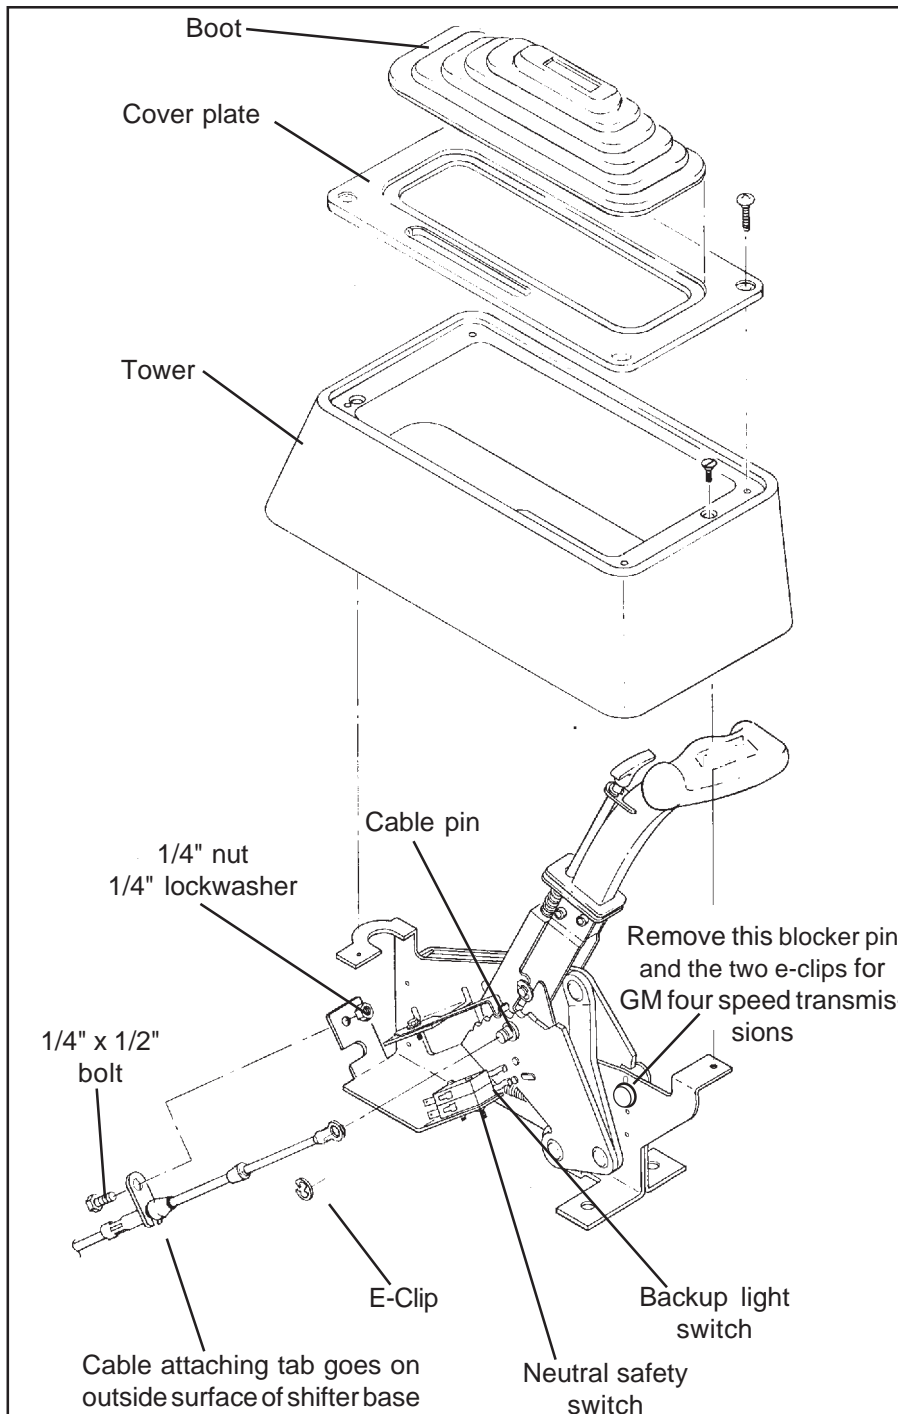
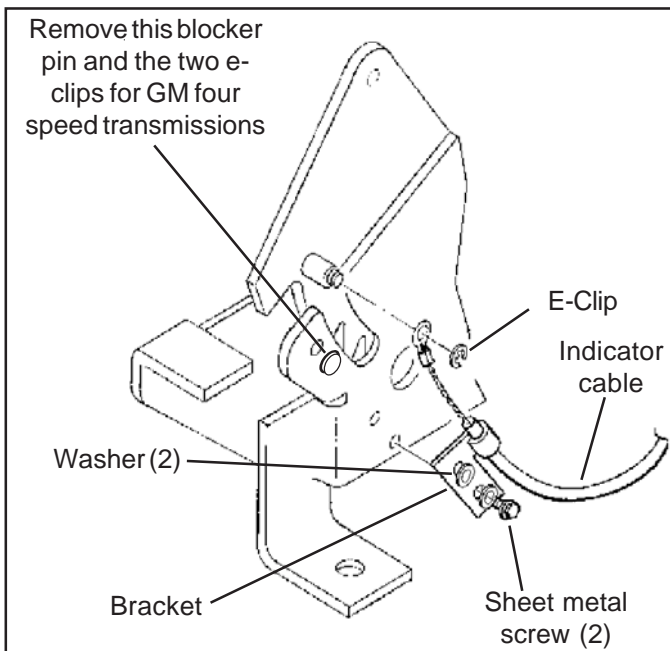

Figure 1
Figure 3
NOTE: If you are installing this shifter with a four speed automatic transmission, you must remove the blocker pin and the two e-clips indicated in **Figures 1 and 3**. Removing this blocker pin gives the shifter four forward positions rather than three. For Ford AOD four speed transmissions do **not** remove this blocker pin and the two e-clips, since this transmission has only three forward positions. Also do **not** remove the blocker pin and the two e-clips for three speed automatic transmissions.
STEP 4. Install (but do not secure) the carpet back to it's original position. Cut holes in the carpet for the mounting holes and the cable. **DO NOT** use a drill bit to make holes in the carpet. **STEP 5.** Assemble the neutral safety and the reverse light switches to the bracket using two #4-40 x 1" screws and nuts, as shown in **Figure 1**. **Beware**, over tightening the switch attachment screws will crack the switch housings. Install the switch assembly on the shifter. To adjust the switches, loosen the screws and slide the
switches in or out as required, then retighten the screws. **STEP 6.** Install the cable on the shifter as shown in **Figure 1**. The cable attachment tab should be bolted to the outside surface of the shifter base using a 1/4" x 1/2" hex bolt, lock washer and nut. Install the e-clip that secures the cable to the cable pin. **STEP 7.** Just before the final installation of the shifter in the vehicle, attach the indicator cable to the side of the shifter as shown in **Figure 3**. The indicator cable bracket is secured to
safety wires to the **LOWER** switch and the reverse light wires to the **UPPER** switch (See **Figure 1**). Tape the terminal connections to prevent shorts. Reconnect the battery ground cable, disconnect the coil wire and set the parking brake. Check the switch operation by attempting to start the motor in each shifter position. **The starter must crank only when the shifter is in the Park or Neutral position.** Check the backup light operation when the shifter is shifted to the Reverse position. Adjust the switches if required. Reconnect the coil wire. Go to **Step 27**.
'66-'68: The neutral safety switch will continue to function normally. It will not be necessary to hook up the neutral safety switch wires on the shifter. Disconnect the battery ground cable before wiring the backup light switch. Locate the original backup light switch on the steering column or the console shifter. Run these wires to the top switch on the **Hurst Vmatic3** shifter (**See Figure 1**). Reconnect the ground